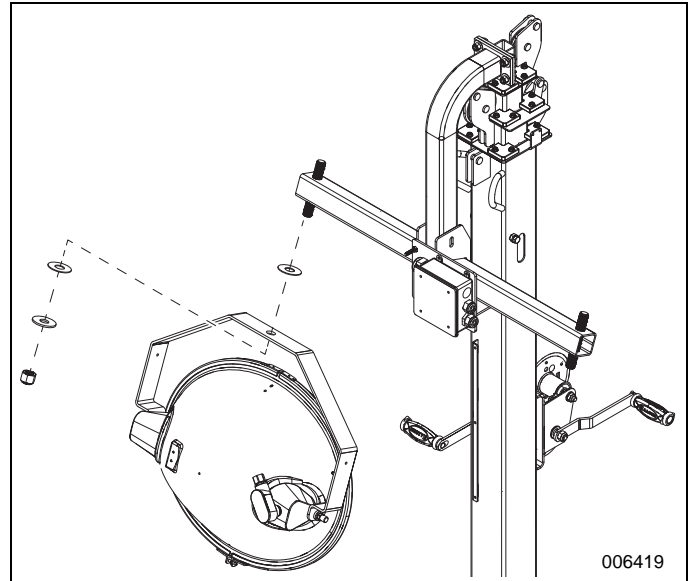

Figure 2. Light Fixture Removal
8. See Figure 2. Remove light fixtures from crossbar.